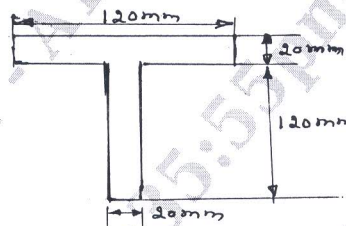

Fig.Q6(b)
b. The T-section shown in Fig.Q6(b) is used as a simply supported beam over a span of 4 meters. It carries an uniformly distributed load of 8 kN/m over its entire span. Calculate the maximum tensile and compressive stresses occurring in the section. (14 Marks)